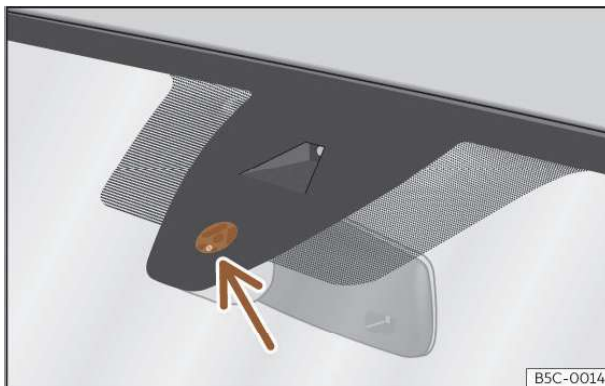

Fig. 97 Rain sensor sensitive surface
The possible causes of anomalies and erroneous interpretations *in the sensitive surface area* >>> **Fig. 97** of the rain sensor are, among others:
- **Dirt:** dry dust, wax, coating on glass (Lotus effect) or traces of detergent (car wash) may reduce the effectiveness of the rain sensor or make it react more slowly, later or not at all. Regularly clean the sensitive surface of the rain sensor >>> **Fig. 97** (arrow) and check for possible damage to the wiper blades.